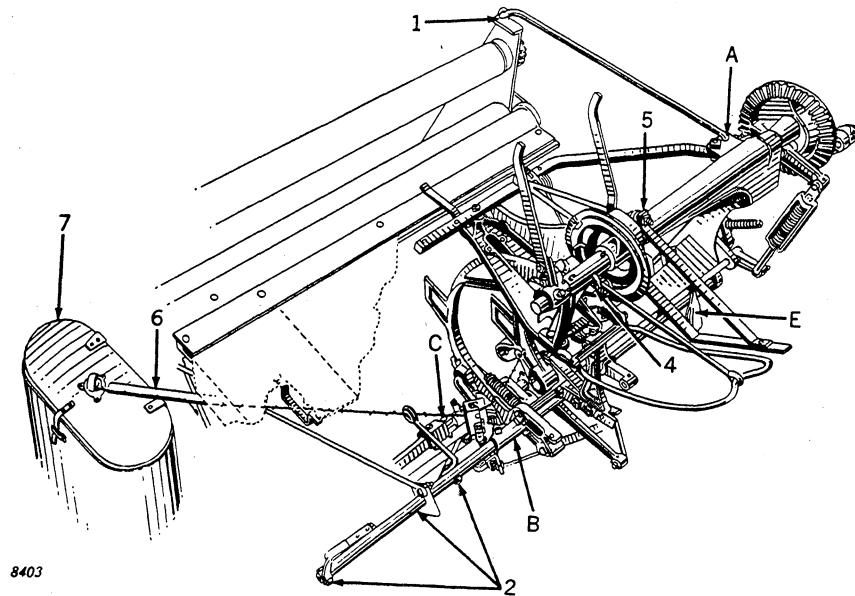
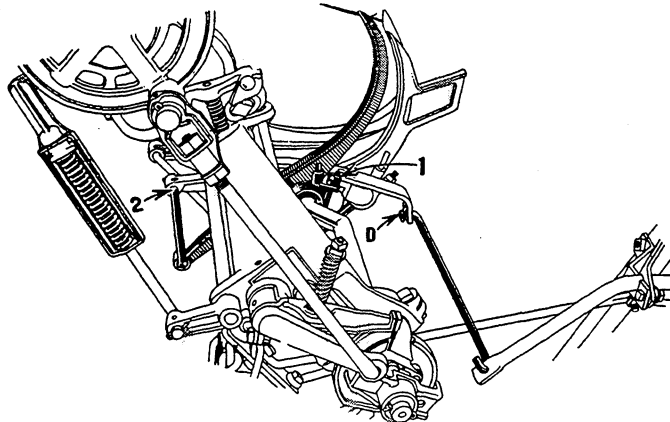

Figure 83
Figure 92
1. (Figure 83) Hook radius rod into elevator bracket.
2. (Figure 83) Put extension pipe through rear binder rest, and re-bolt deck support to pipe. Be sure that deck support and twine guide set as shown.
3. Set binder attachment on front binder rest "E," Figure 83, and fasten radius rod at "A" with cotter pin. Connect extension pipe at "B," Figure 83. Connect square drive sleeve coupling at "C," Figure 83. Connect shifter link at "D," Figure 92.
4. (Figure 83) Attach stripper to breast plate and secure brace to knotter frame with cotter pin.
5. (Figure 83) Bolt front stripper to binder frame. Do not change adjustment of nuts on inner side of binder frame.
6. (Figure 83) Bolt twine guide to twine can lid.
7. (Figure 83) Attach twine can with the washers under head of bolt inside of twine can.
1. (Figure 92) When operator desires to use this packer, install as follows: Loosen lock nuts and place packer in position, being sure wood bearing and clamp bolt are in place.
2. (Figure 92) Connect packer link to packer link support.